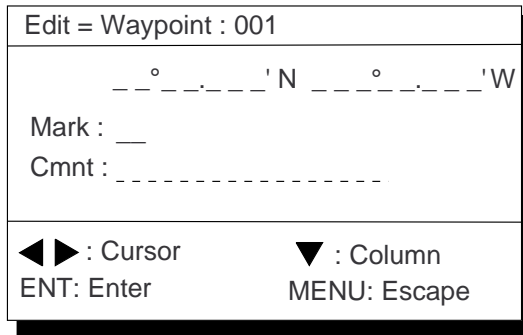

Figure 4-11
- 5) Press ◀ or ▶ to enter position. The display should now look something like Figure 4-11.